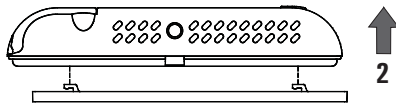

Fig. 2
- 1 Release the wall mount plate fitted under the base of the thermostat as shown in Fig. 2.